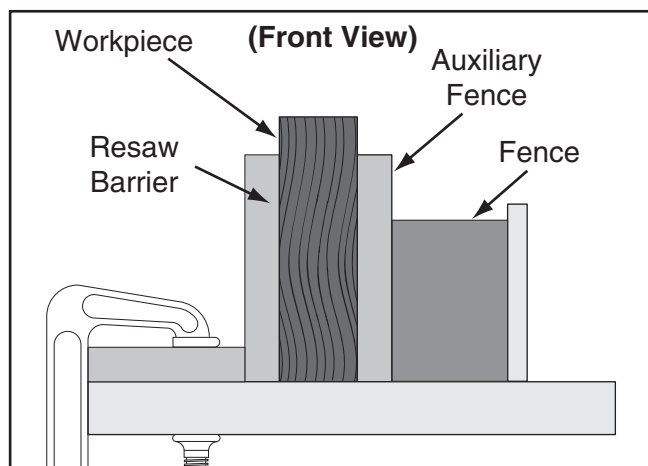

Figure 74. Ideal resaw workpiece setup.
- Place the workpiece against the auxiliary fence and slide the resaw barrier against the workpiece, as shown in **Figure 74**. Now clamp the resaw barrier to the top of the table saw at both ends.